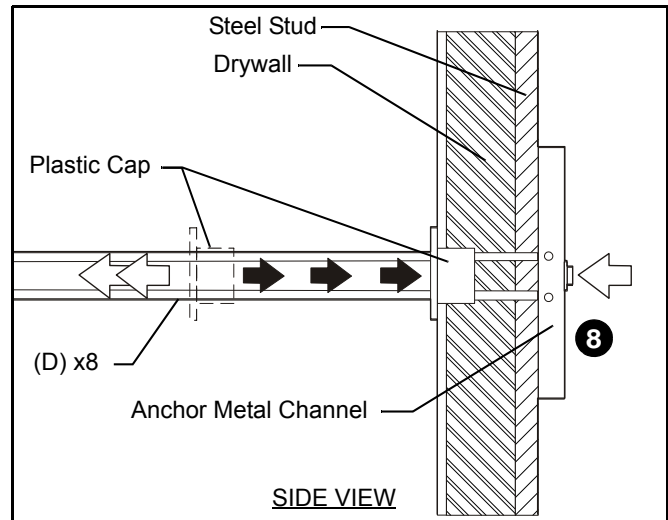

Figure 4
7. Holding plastic straps on anchor (D), pull anchor away from wall until channel rests flush behind wall making sure anchor channel is positioned vertically on stud as show in figures below. (See Figure 4)
8. Slide plastic cap on anchor (D) towards wall until flange of cap is flush with wall. (See Figure 4)